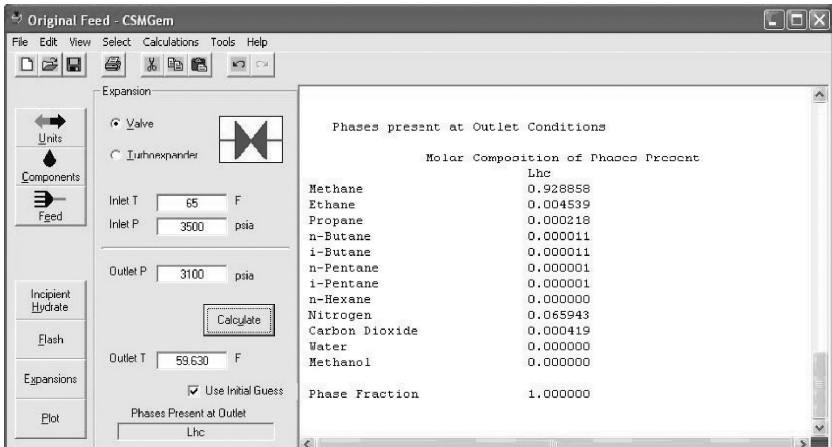

FIGURE A.6 Layout for expansion across a valve.
3. Enter an inlet pressure of 3500 psia and temperature of 65°F (see Figure A.6)